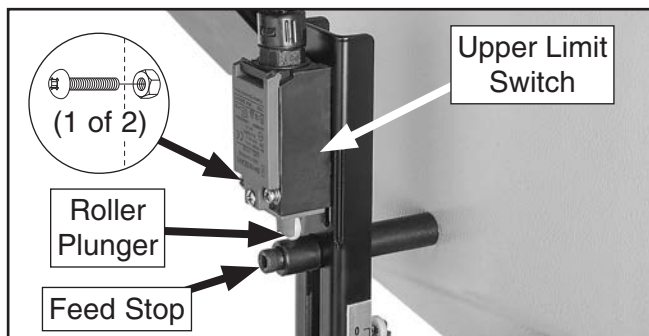

Figure 88. Upper limit switch and feed stop.
3. Loosen Phillips head screws and hex nuts that secure upper limit switch (see **Figure 88**).
4. Adjust upper limit switch so roller plunger is depressed against feed stop (see **Figure 88**), then tighten screws and hex nuts.